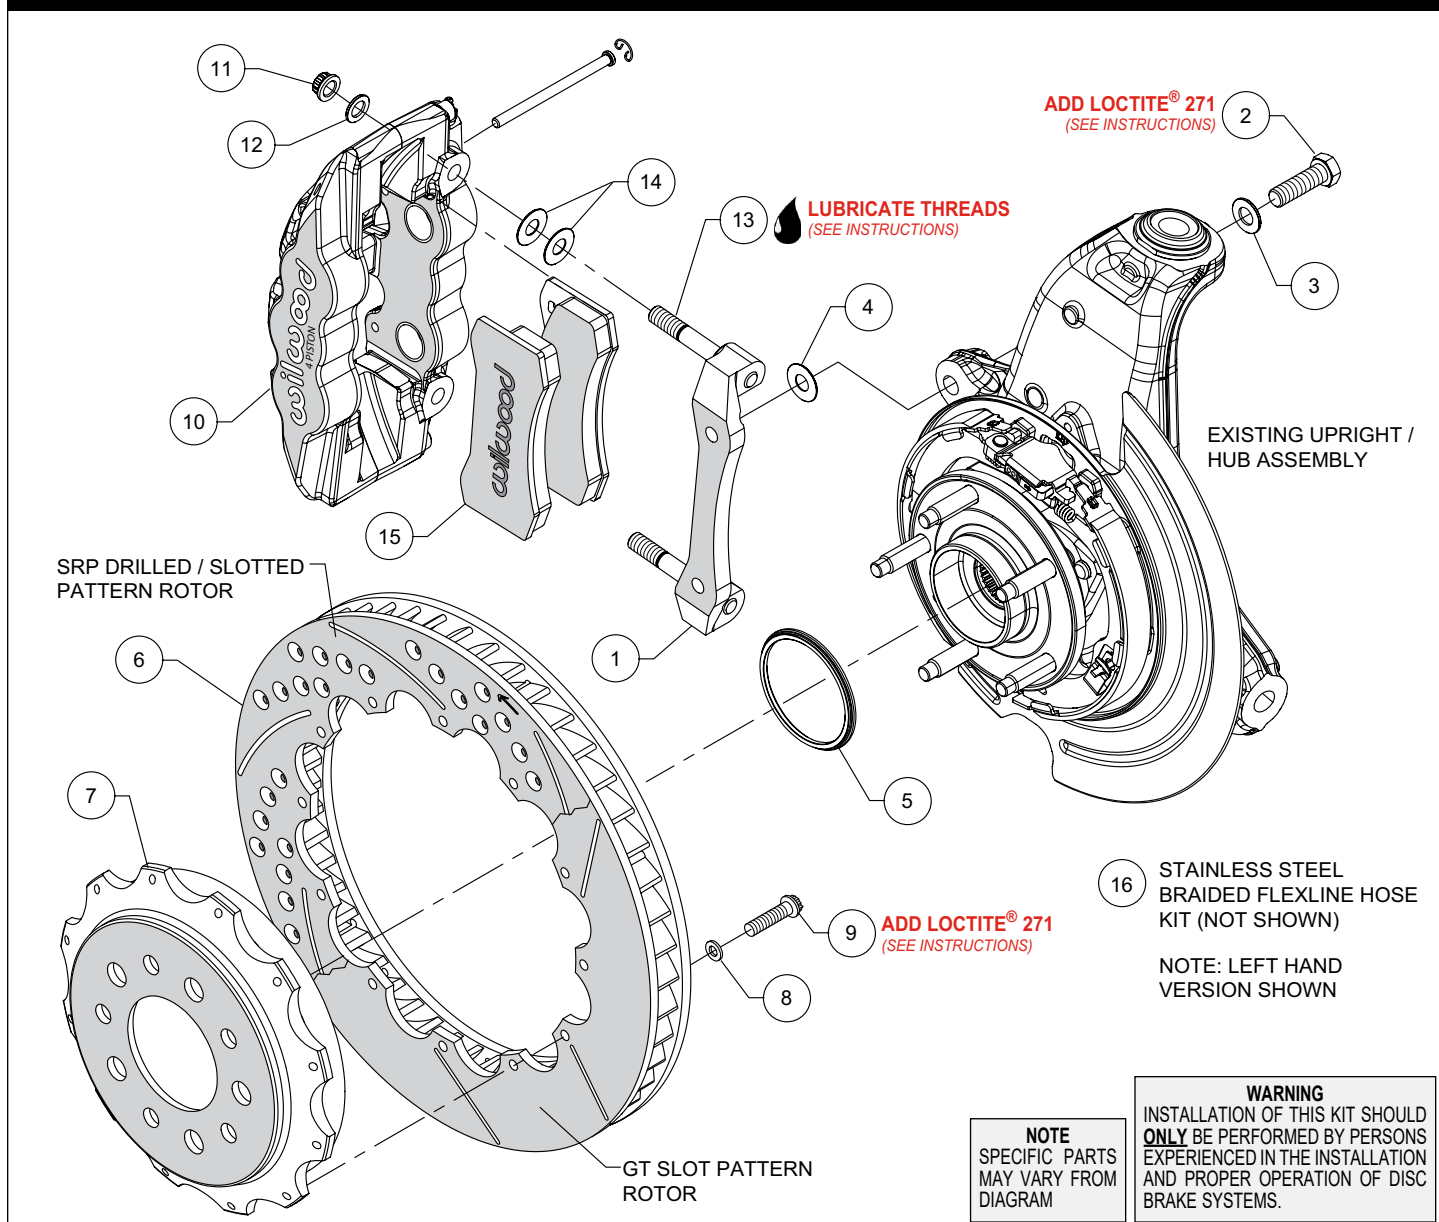
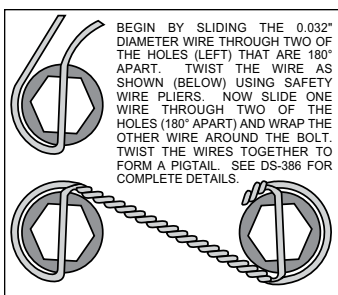

Figure 1. Typical Installation Configuration
Figure 3.
NOTE: Numbers in parenthesis refer to the parts list and Figure 1 on the preceding pages.
- The caliper mount bracket (1) should initially be installed with clean, dry threads on the mounting bolts. Orient the bracket as shown in Figure 1, and Photo 1, and install using bolts (2) and washers (3). Initially place one .033" thick shim (4) on each bolt between the bracket and upright, Figure 1. Temporarily tighten the mounting bolts. **NOTE:** *The bracket must fit squarely against the mount bosses on the upright.* Inspect for interference from casting irregularities, machining ridges, burrs, etc. Later, after the caliper alignment has been checked, the mount bolts will be secured using red *Loctite*® 271.
- Orient the rotor (6) and the hat (7) as shown in Figure 1 and Photo 2. Attach rotor to hat using bolts (9) and washers (8). Apply red *Loctite*® 271 to the bolt threads and torque to 140 in-lb using a criss-cross pattern. For an added measure of security, the bolts may be safety wired using standard 0.032 inch diameter stainless steel safety wire as shown in Figure 3. Please refer to Wilwood's data sheet DS-386 (available at www.wilwood.com/Pdf/DataSheets/ds386.pdf) for complete safety wire installation instructions.
•**NOTE:** This kit contains distinct right and left hand calipers. The calipers must be mounted with the bleed screws pointing upward. Lubricate the caliper mounting studs (13) with lightweight oil. Initially place two .030" thick shims (14) on each stud as shown in Figure 1 and Photo 5. Mount the caliper (10) onto the bracket (1) using lock nuts (11) and washers (12), Figure 1. Temporarily tighten the lock nuts and view the rotor through the top opening of the caliper. The rotor should be centered in the caliper, Photo 6. If not, adjust by adding or subtracting shims (4) between the bracket and the upright. Always use the same amount of shims on each of the two mounting bolts. Once the caliper alignment is correct, remove the bracket mounting bolts (2) one at a time, apply red *Loctite*® 271 to the threads, and torque to 60 ft-lb.
•Remove the two pad retaining pins from the caliper (10) by carefully popping out the pin retaining clips and sliding out the pins. Insert the brake pads (15) into the caliper from the bottom, Figure 1 and Photo 7. With the friction material facing the rotor, secure the brake pads in place with the pad retaining pins and clips, Photo 8. Reinstall the caliper onto the caliper mounting bracket and temporarily tighten the lock nuts. Check that the top of the brake pad is flush with the outside diameter of the rotor, Photo 9. If not, adjust by adding or subtracting shims (14) between the caliper and the bracket. After the caliper pad height is set, torque the caliper lock nuts (11) to 47 ft-lb.